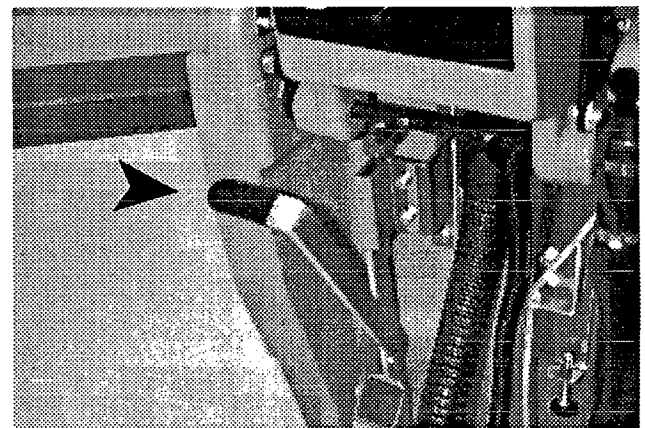

FIG. 17
2. If more scrubbing pressure is needed for small heavy soiled areas, simply pull brush lift lever upward. (Figure 17)